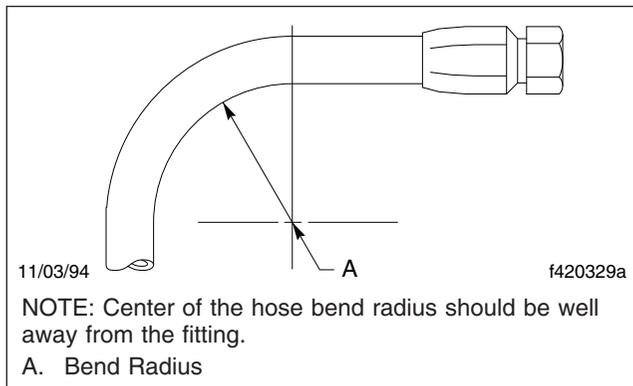

Fig. 10.11, Bend Radius
- 23.7 Check the bend radii of all hoses. See Fig. 10.11. The minimum bend radius of a hose is that bend which the hose will withstand without experiencing damaging stresses or kinking. For minimum bend radius values, take your vehicle to an authorized Freightliner dealer for assistance.